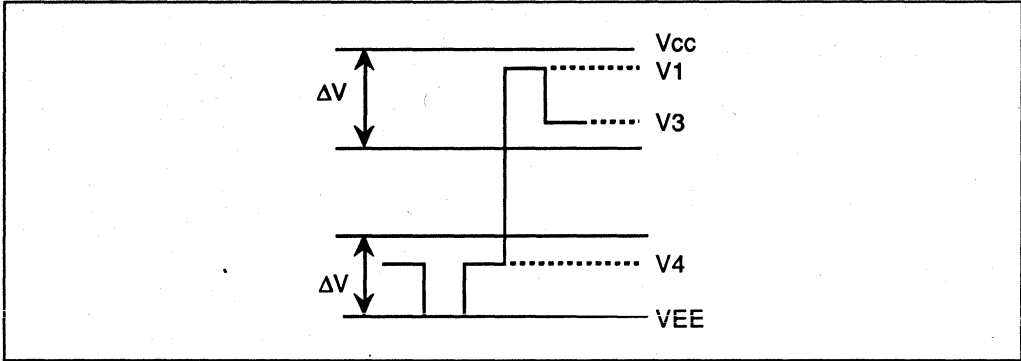
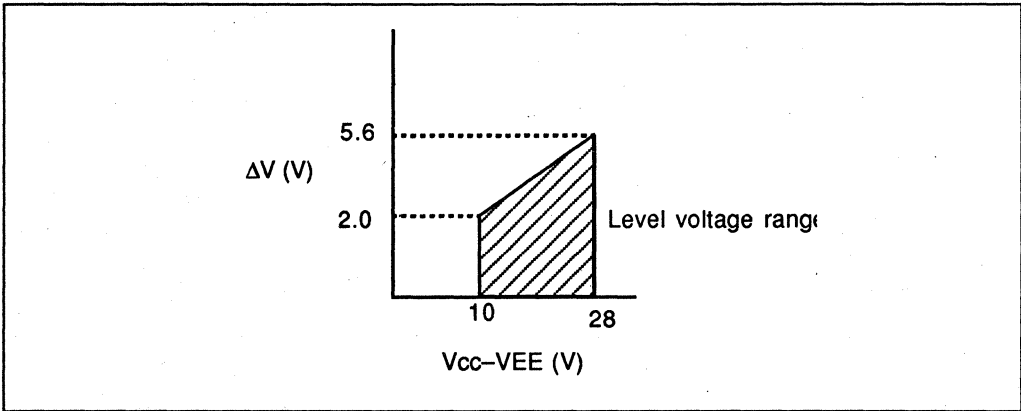

Figure 6 Relation between Driver Output Waveform and Level Voltages
Figure 7 Relation between $V_{CC} - V_{EE}$ and ΔV
- V1 and V3 should be near V_{CC} level, and V4 should be near V_{EE} level (figure 6). All voltage must be within ΔV . ΔV is the range within which R_{ON} , the LCD drive circuits' output impedance, is stable. Note that ΔV depends on power supply voltage $V_{CC} - V_{EE}$ (figure 7).